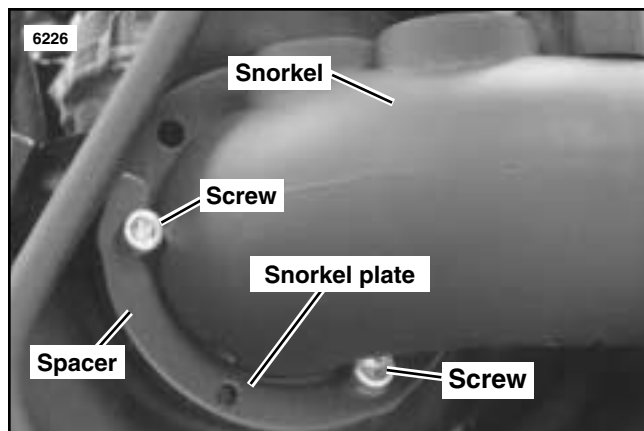

Figure 6. M2 or S3 Stock Snorkel Plate
8. See Figure 6. Remove two screws and snorkel plate. Remove snorkel.